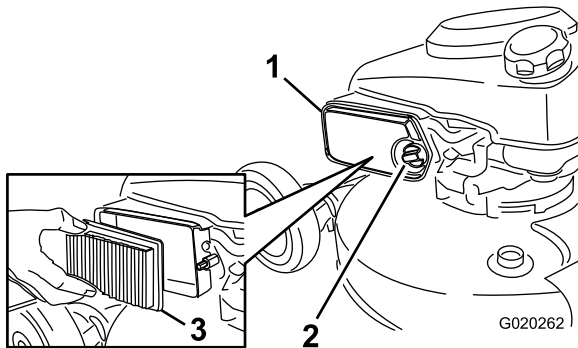

Figure 38
1. Unscrew the knob and open the cover (Figure 38).
2. Replace the air cleaner element (Figure 38).